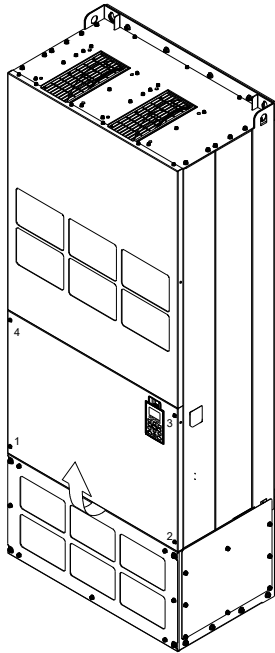

Figure 1
1. Loosen the screw 1-4 and remove the top cover (figure 1). Screw torque: 14-16 kg-cm / [12.2-13.9 lb-in] / [1.4-1.6 Nm]